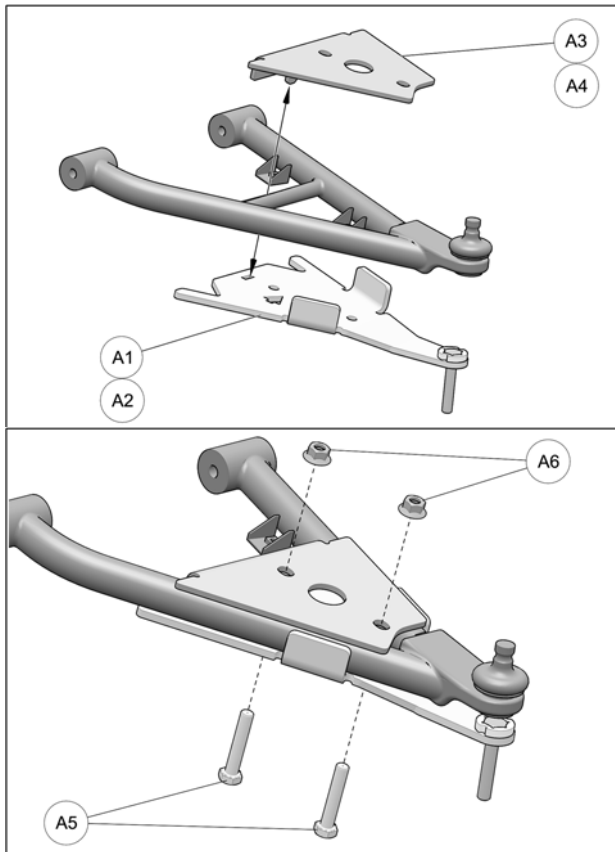

Fig. 13
5. Position bottom part of anchor bracket (**A1-A2**) assembly under front lower suspension arm, as shown in the figure below. Position bracket cover (**A3-A4**) over suspension arm and align holes in cover and bottom part. Insert M10x55mm bolts (**A5**) from the bottom and secure the two parts together with the nuts (**A6**) provided. Tighten assembly to 50 N·m [37 lb·ft] of torque. Refer to Fig. 13